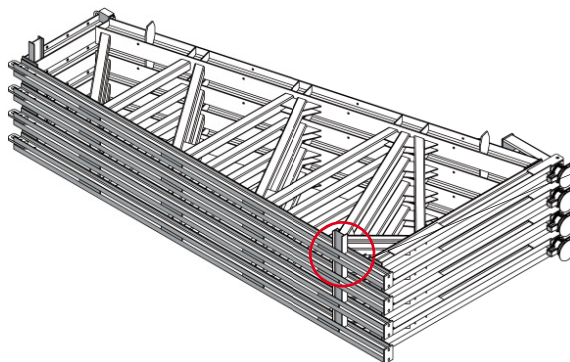

Fig. 22.4
Four (4) support frames can be stacked. To facilitate stacking the frames are equipped with a welded-on stacking device (Fig. 22.4 and 22.5).